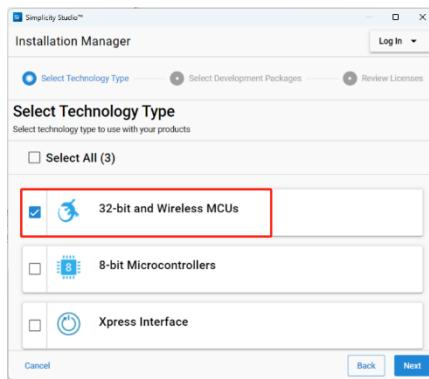

Figure 3.3
- 2) Select "32-Bit and Wireless MCUs" and click "Next", as shown in figure 3.3